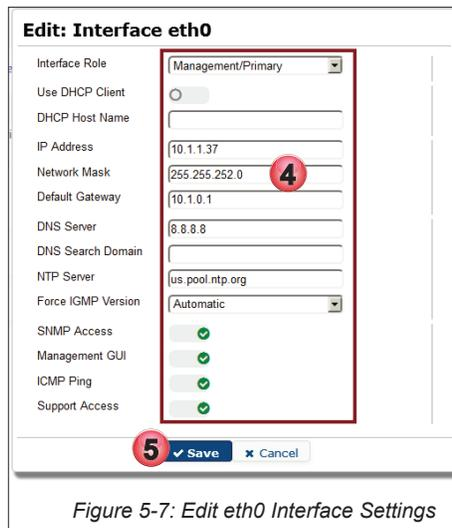

Figure 5-7: Edit eth0 Interface Settings
- Edit default values or fill in the Interface Settings form, Figure 5-7 per Table 5.2a and/or your requirements.
**Table 5.2a: Form Values for eth0 (See Figure 5-7)**